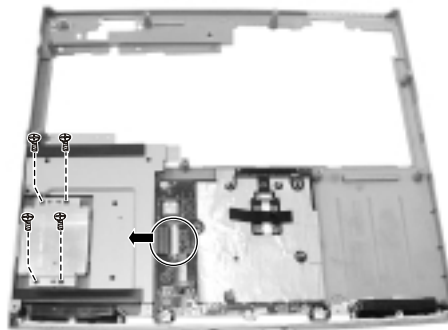

Figure 2-28 Remove the card reader
3. Disconnect the cable from the top mother board. (Figure 2-28)
4. Remove the four screws to lift up the card reader. (Figure 2-28)